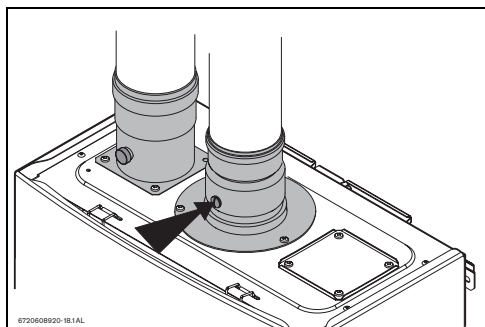

Fig. 50 Measuring port
- Remove plastic screw on the exhaust collar as seen in Fig. 50 .